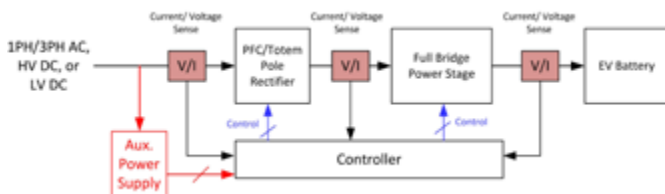

Figure 1: EV charging system with universal AC or DC supply.
Let's assume you have a power monitoring application in an electric vehicle (EV) charging application in which the auxiliary power supply needs to have multiple input options: three phase or single phase AC or high voltage DC or low voltage DC. Additionally, the charging application needs to be able to generate bipolar ($\pm 10\text{V}$) output rail voltages to power the calibrated current and voltage sensors and amplifiers (Figure 1).